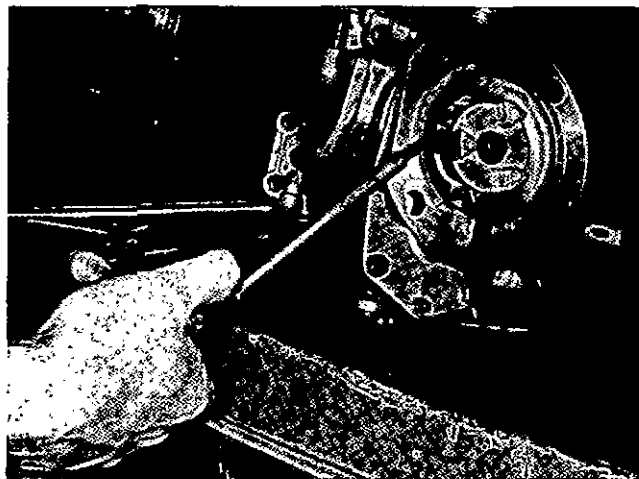

Fig. 10-3, (F5320). Lubricate the tachometer drive gears in the front cover.
3. Apply SAE-30 oil to the front cover tachometer drive gears to have enough lubrication during the calibration, Fig. 10-3.